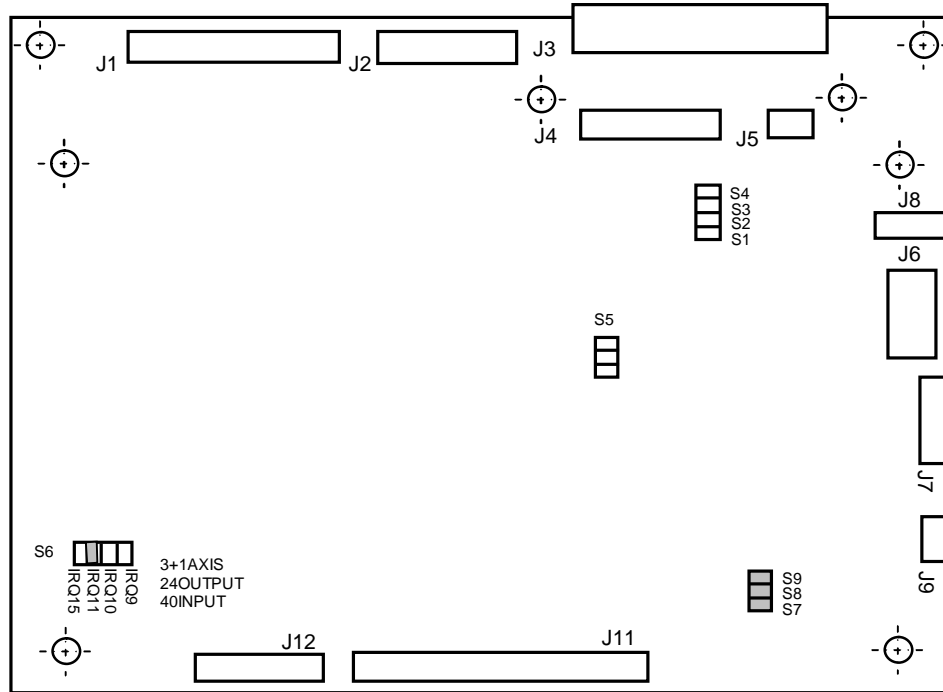

Figure A.2 – Arrangement of Connectors and Jumpers of the NC201-25 Card
10.1.2.1 The arrangement of connectors and jumpers of the **ECDA I/O** card NC201-25 is shown in Figure A.2.